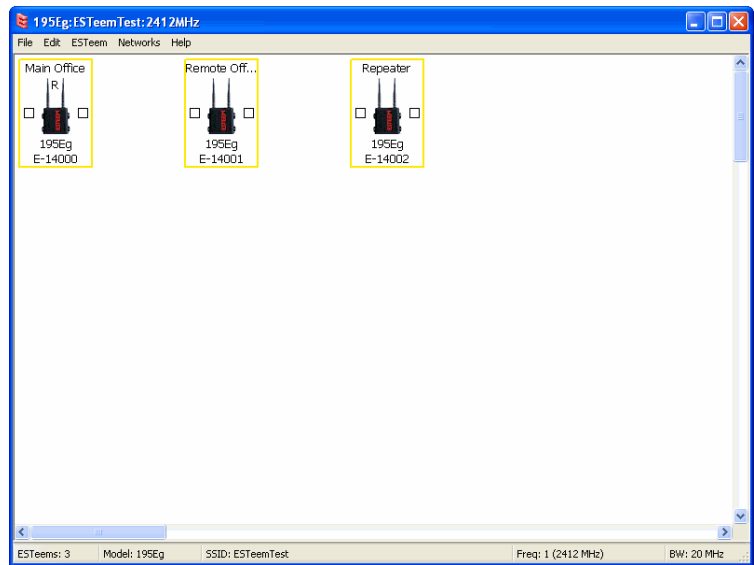

Figure 12: Example 2 Modems
1. Using the above procedure, enter the three ESTeem 195Ea's into the ENC Utility. Your layout should appear like Figure 12.